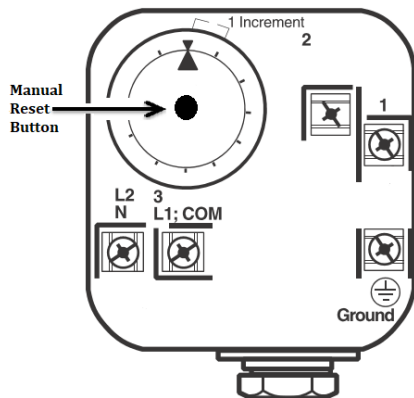

Figure 20: High/Low Gas Pressure Switch
- d. Reset high and low gas pressure switches. (see Figure 20).